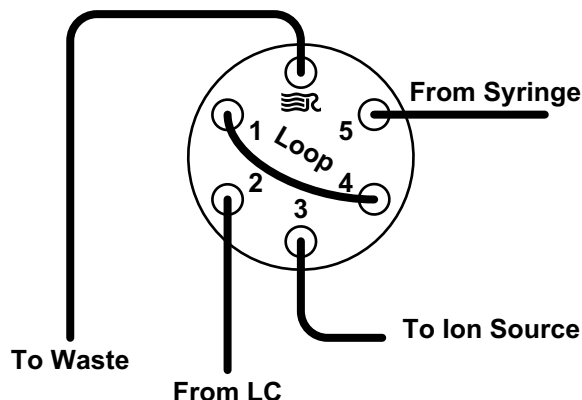

Figure 4-3. Divert/inject valve, showing plumbing for auto loop injection
- b. Connect the other end of the tubing fitted with a nut and a ferrule to port 5 of the divert/inject valve. See Figure 4-3.
- b. Connect an appropriate length of tubing fitted with a nut and a ferrule to port 3 of the divert/inject valve. (Figure 4-3)